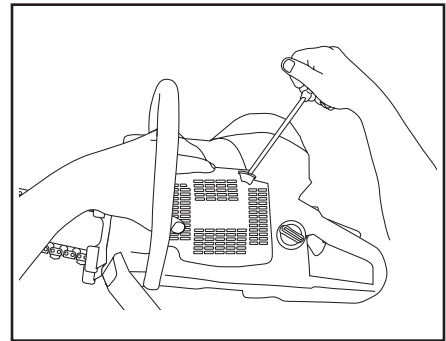

Figure 1
- To reattach the starter housing, first pull the starter cord out, then hold the starter housing against the crankcase (Figure 1). Slowly release the starter cord to enable the pulley to fit between the pawls.